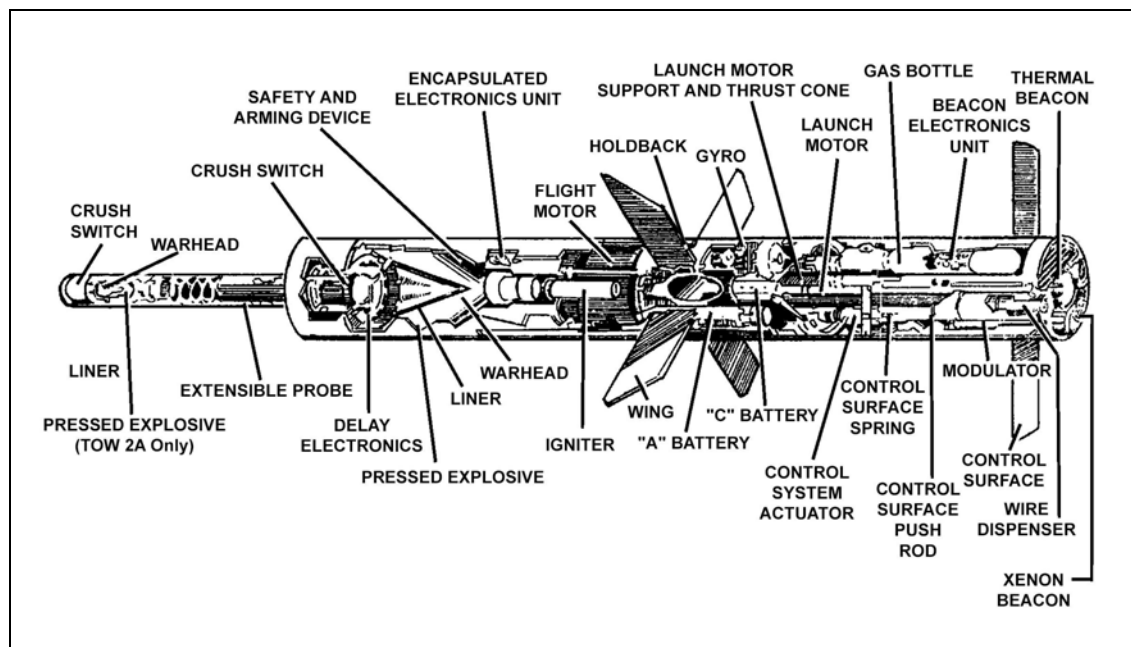

Figure 2-16. TOW 2 and TOW 2A missiles.
c. **TOW 2 (BGM-71D).** The TOW 2 has a 6-inch full-caliber warhead with an extensible probe (Figure 2-16, page 2-22). This missile has a xenon beacon like the basic and ITOW missiles, but it also has a thermal beacon. The thermal beacon improves missile performance through battlefield smoke and obscurants, and against missile countermeasure devices (jammers). The thermal beacon links tracking to the electro-optical FLIR, which is part of the TOW 2 subsystem. The TOW 2's flight motor is also more powerful than the one in previous models. The TOW 2's maximum effective range is 3,750 meters.
d. **TOW 2A (BGM-71E).** The TOW 2A has the same characteristics as the TOW 2, except with the addition of a precursor charge on the extensible probe. The precursor charge discharges reactive armor before the main charge impacts (Figure 2-16, page 2-22).